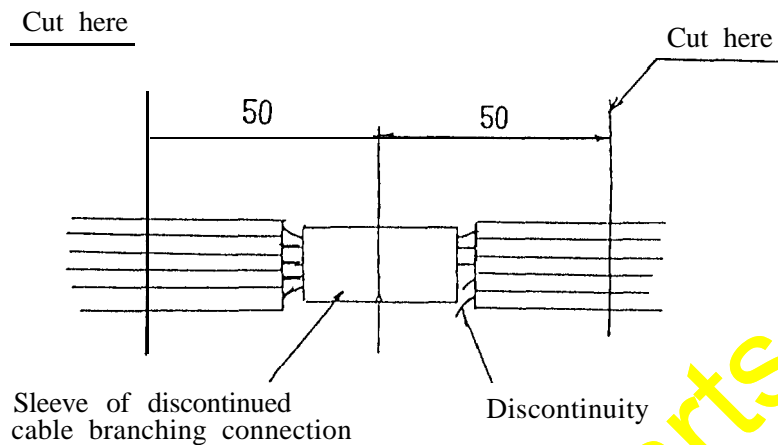

Fig. 3 Cutting of wire
- (3) Verify the discontinuity of cable branching connection.
- (4) Cut all the five wires at the points approx. 50 mm to the front and rear centering cable branching connection. (Fig. 3)